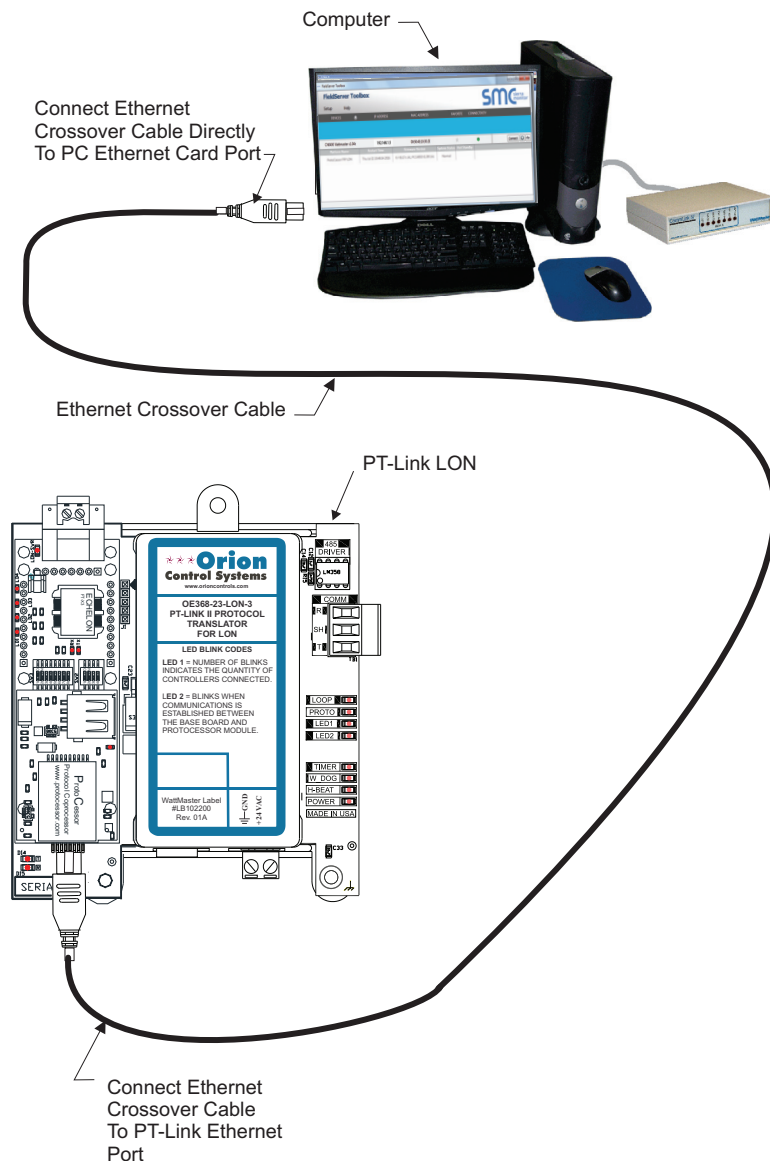

Figure 28: Connecting With Crossover Cable
1. Refer to **Figure 28, page 17** for instructions on how to connect your PT-Link to your computer using an ethernet connection.